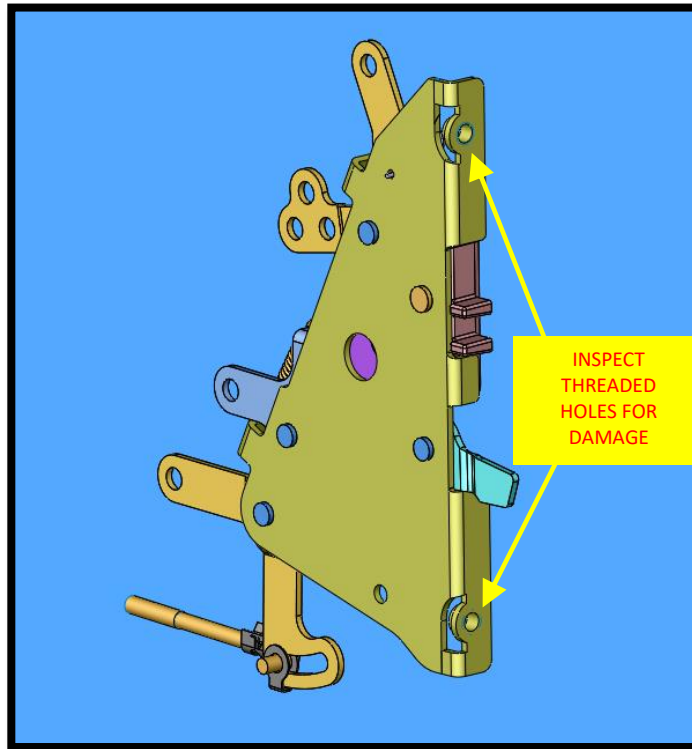

FIG. 6-1
7. Inspect threaded mounting holes in latch logic for damage. Refer to FIG. 6-1. Replace latch logic (P/N 0557-EE3-001 LH, 0534-EE3-001 RH) if thread damage is present.